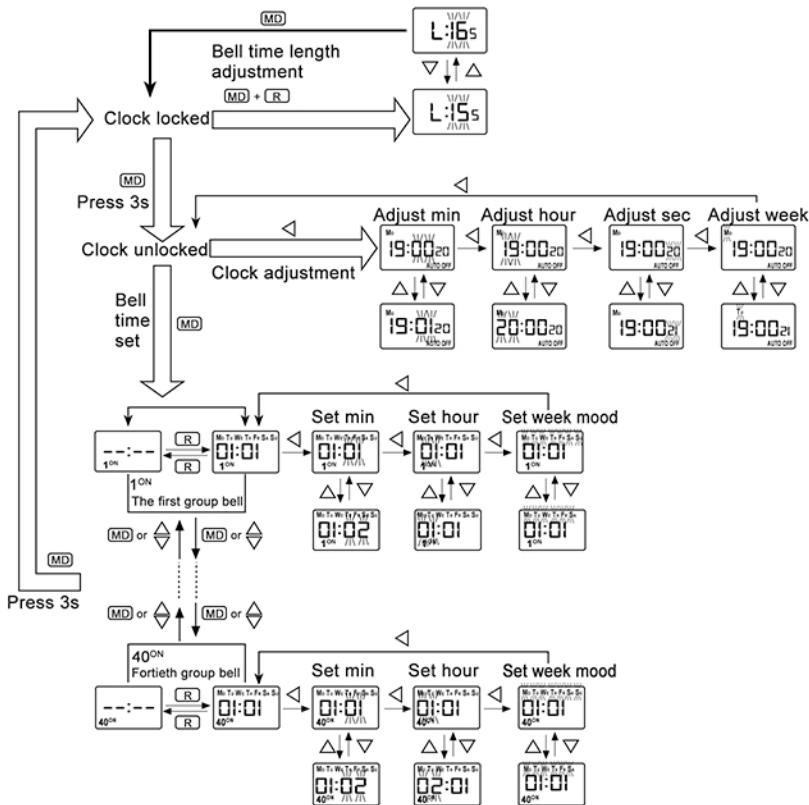

Figure6
4.1. For setting up time of belling, see Figure 6.